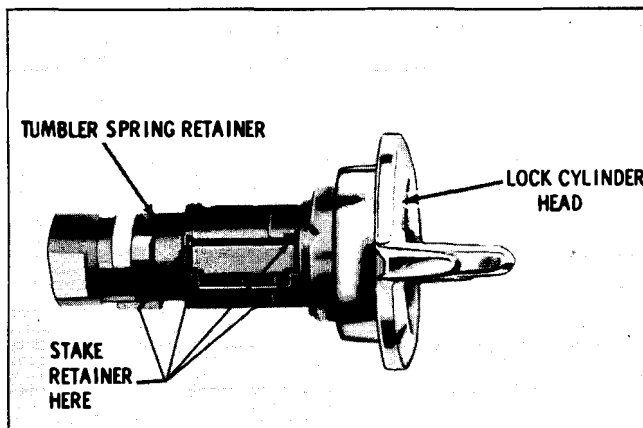

Fig. 0-18 Staking Tumbler Spring Retainer
5. Install spring retainer using vise. Stake as shown in Fig. 0-18.